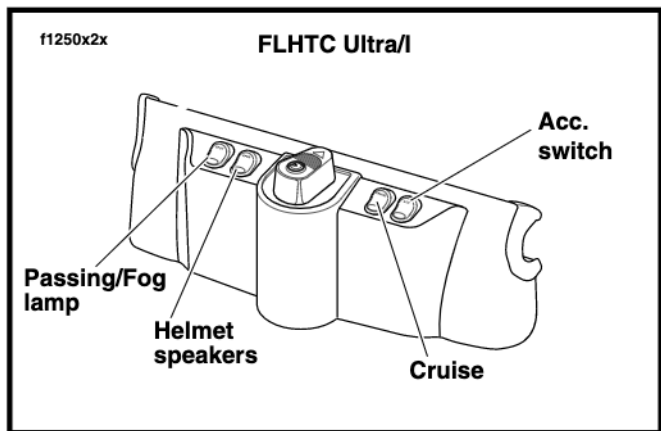

Figure 5. Cruise, Speakers, Acc., Passing Lamp Controls
See Figure 5. Use the passing lamp switch to turn on the passing lamps as required.
See Figure 5. The RED lamp on or near the switch, indicating CRUISE ON, will light.
3. See Figures 5 and 9. The GREEN lamp on the gauge panel, indicating CRUISE SET, will light.
See Figure 5. All FLT models, including the FLHR, have an accessory switch for the owner's use. There is an accessory connector, located under the seat, that can be activated with the ACC. switch. The switch is located on the left side of the fairing or triple clamp shroud. See your dealer for possible uses.
See Figures 5 and 9. Ultra models have two additional indicator lights: a red light on the cruise control switch, indicating cruise control ON or OFF, and a green light on the tachometer, indicating cruise control set or not set. See CRUISE CONTROL - ULTRA MODELS.